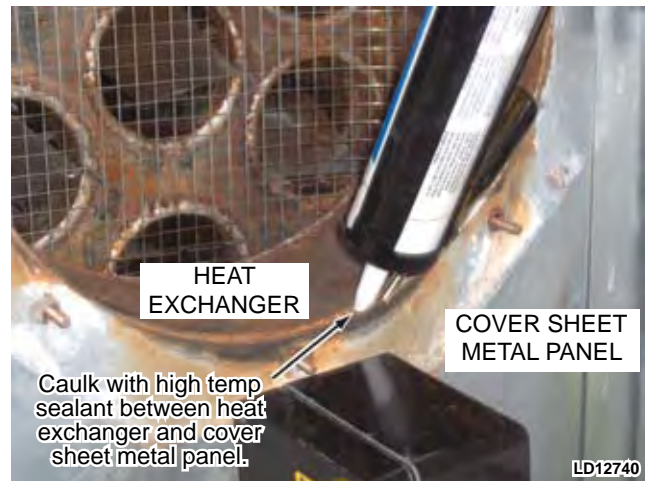

FIG. 5-134 - CAULK BETWEEN HEAT EXCHANGER AND SHEET METAL COVER PANEL
- Holding sheet metal cover panel 1/8" away from heat exchanger, apply moldable high temp sealant (Fiber Frax LDS). See Fig 5-134.